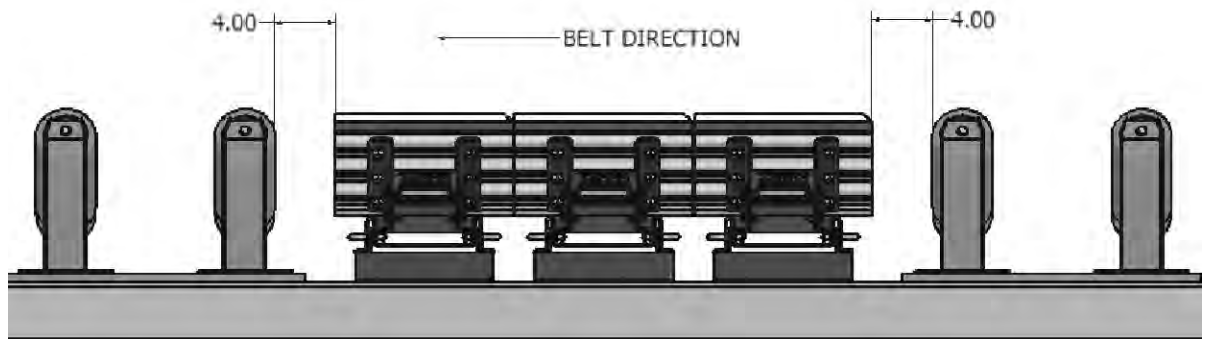

Figure 12.
- 2.)** Measure approximately 4" from the side of the troughing idler which will be just before the Modular Impact Bed. This line will be the start of the Impact Bars (see Figure 12). Measure 9" from this line to mark the center line of the first Modular Impact Bed.
- 6.)** The last Modular Impact Bed should be followed by the next troughing idler approximately 4" away from the Impact Bars (see Figure 12).